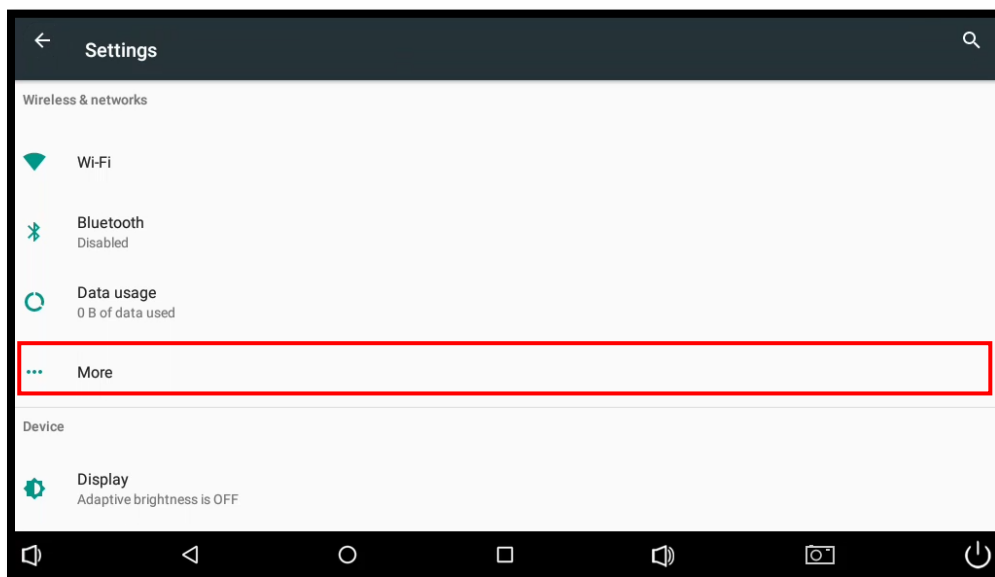
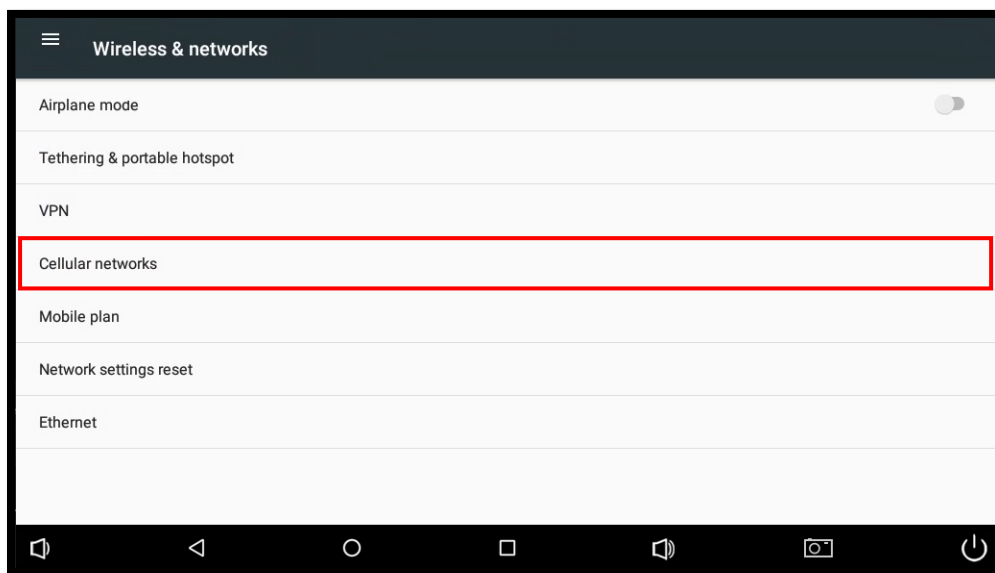

Figure 3.8 Wireless & networks >> More
Figure 3.9 Wireless & networks >> More >> Cellular networks
- 2) In the Android device's setting menu, click on **"More"** in **Wireless & networks** section (Figure 3.8), then click on **Cellular networks** (Figure 3.9).